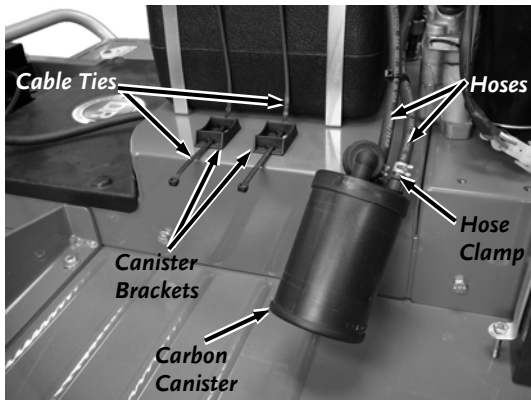

Figure 38
4. Slide the Hose Clamp down from the Hose connection with Pliers and twist the Hoses from the Canister (**Figure 38**).